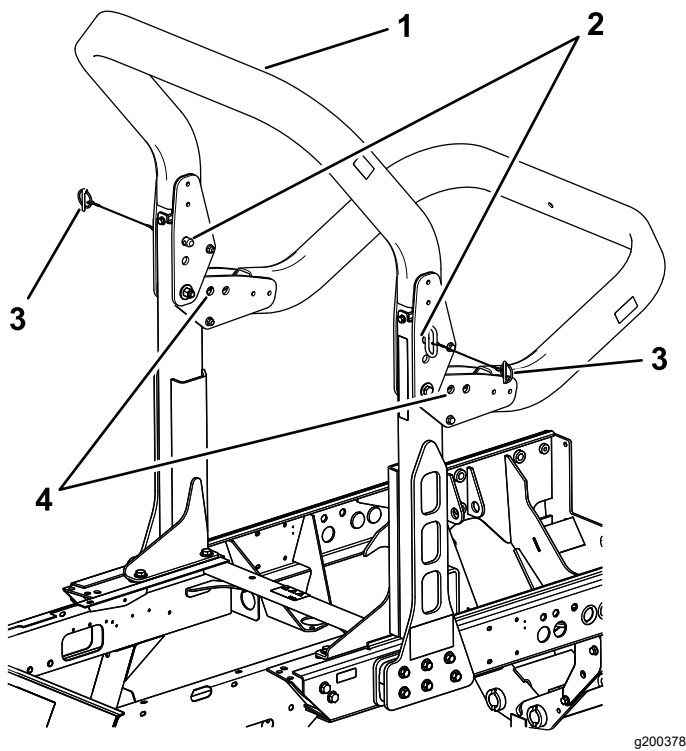

Figure 73
2. Support the weight of the upper frame of the roll bar while removing the snap pins and clevis pins from the pivot brackets (Figure 73).